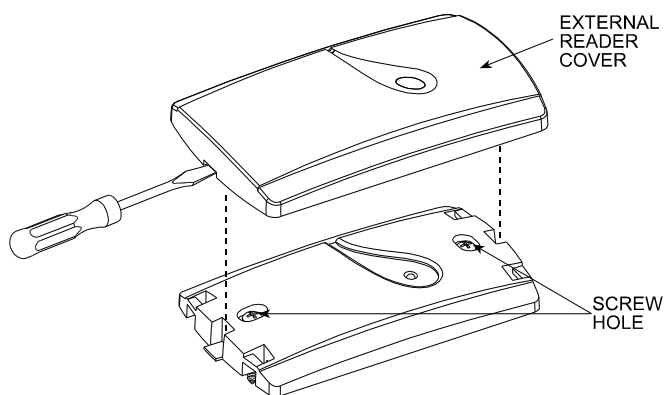

Figure 2. RDR-4, RDR-4B Mounting
- Replace the reader's cover, ensuring that the cover is aligned with the reader. This enables the LED to be visible, (see Figures 2 and 3).